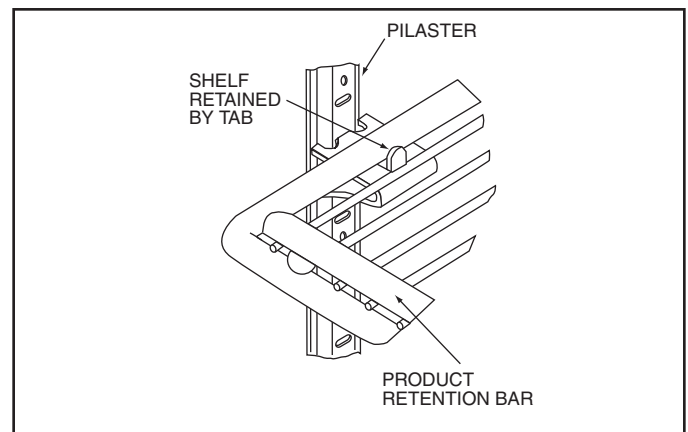

Figure 3. Proper installation of the shelf on the clip.
6. Shelves must be placed so that the retaining tab on the shelf clip captures the shelf, as shown in Figure 3.